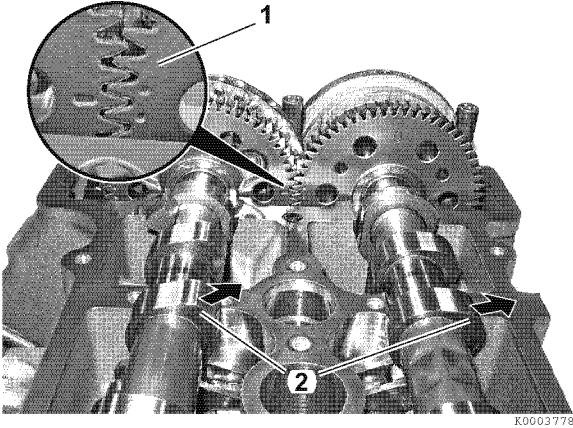

Figure 5-103
3. Install camshafts. Ensure the timing marks (1, **Figure 5-103**) on the gears align as shown. When the timing marks are aligned, the lobes (2, **Figure 5-103**) for cylinder No. 1 will face the exhaust side of the engine.